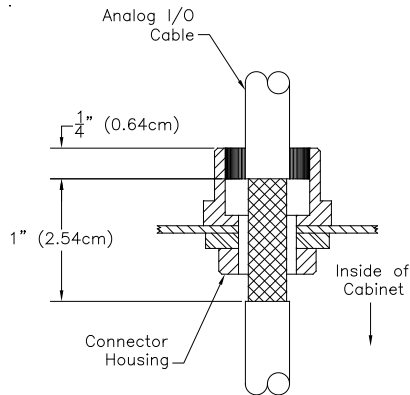

Figure 7: Stripping of DC I/O Cable
2. Route the desired length of analog I/O cables(s) through the connector housing(s) and mark 1" span of cable that passes through connector housing to be stripped to braid (see Figure 7).